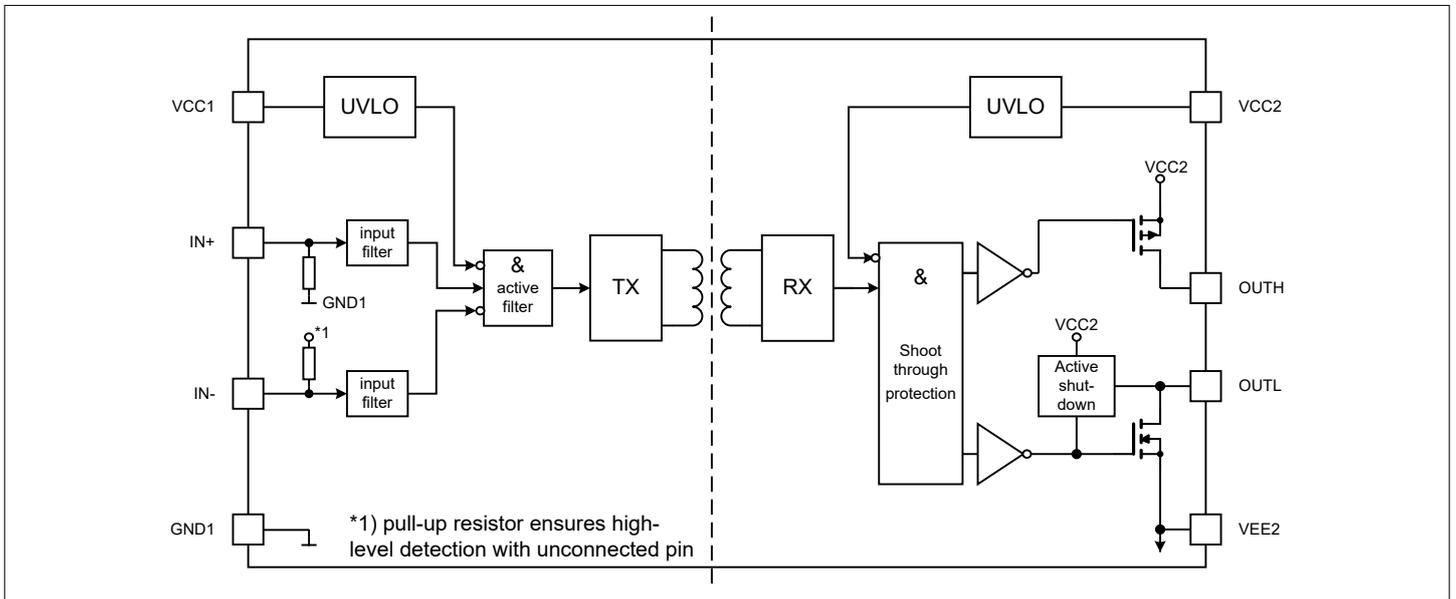

Figure 3 Block diagram for 1EDR3140HQE and 1EDR3147HQE
- **IN+:** Non-inverted control signal for driver output. An internal filter provides robustness against noise at *IN+*. If left open, an internal, weak pull-down resistor pulls this pin to a low state, as shown in Figure 3
- **IN-:** Inverted control signal for driver output. An internal filter provides robustness against noise at *IN-*. If left open, an internal, weak pull-up resistor pulls this pin to a high state, as shown in Figure 3